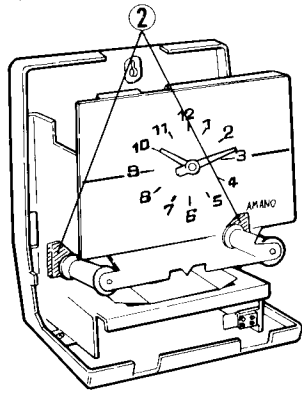
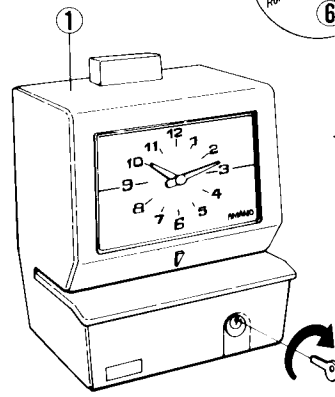

Fig. 1
Fig. 2a
- Before use, open the cover case ① and remove packing (cushion) materials ② placed on each side of ribbon spool section as shown in Figure 1 and Figure 2a.
Turn the key in the direction of the arrow as shown in Figure 2a.
- 1) To install the batteries, open the cover case as shown in Figure 2a.
- 1) Remove the cover case. (Refer to Fig. 2a)